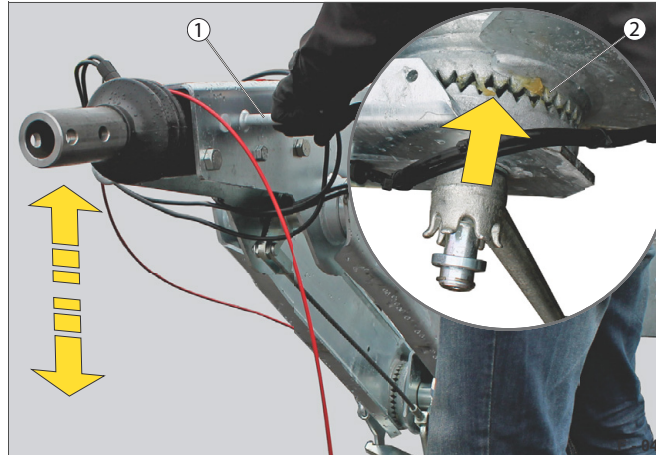

Fig. 47 Adjust height
- Grip the handle with both hands (Fig. 47 /1) and adjust the HV drawbar to the height of the towing vehicle coupling.
The gearing (Fig. 47 /2) is undone.